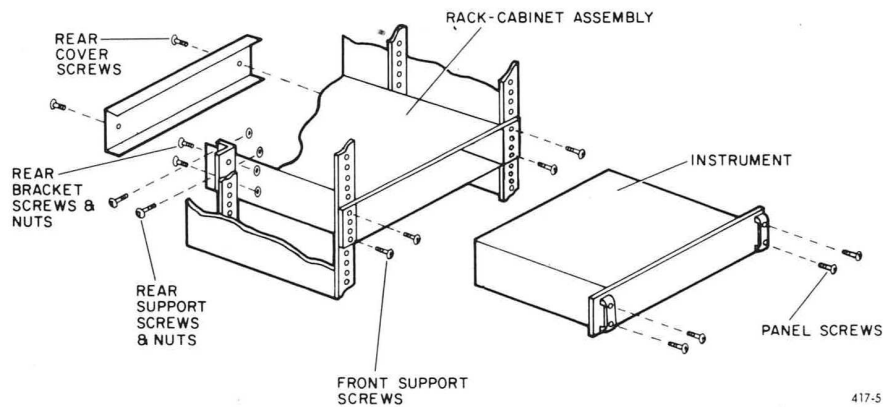

Figure 2-4. Removing the Rack Model from its Cabinet.
- Remove the panel screws (P/N 7270-6310, No. 10-32, 9/16 inch with nylon washer) and slide the instrument out of its cabinet (Figure 2-4).